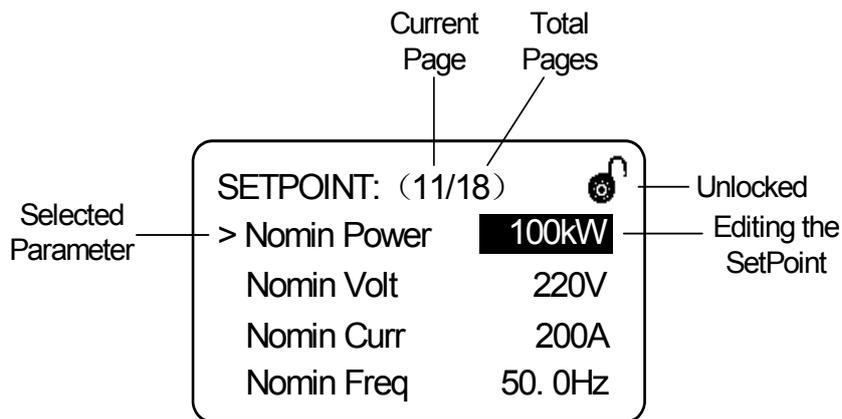

Figure 2-10
- Select “Nomin Power” set point, press MUTE key to enter editing status, see figure 2-10